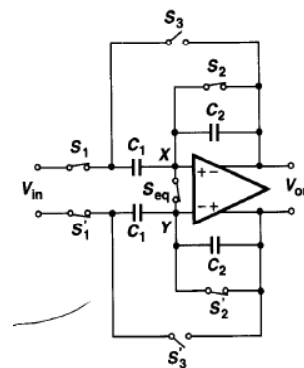

Figure 12.46 Differential realization of noninverting amplifier.
- **Input dependent charge injection** is again **avoided** by proper **timing**, turning S_2 off before S_1 . V_{out} is free for errors due to S_1 and S_3 , and offset due to S_2 can be suppressed by **differential** operation (Fig. 12.46).